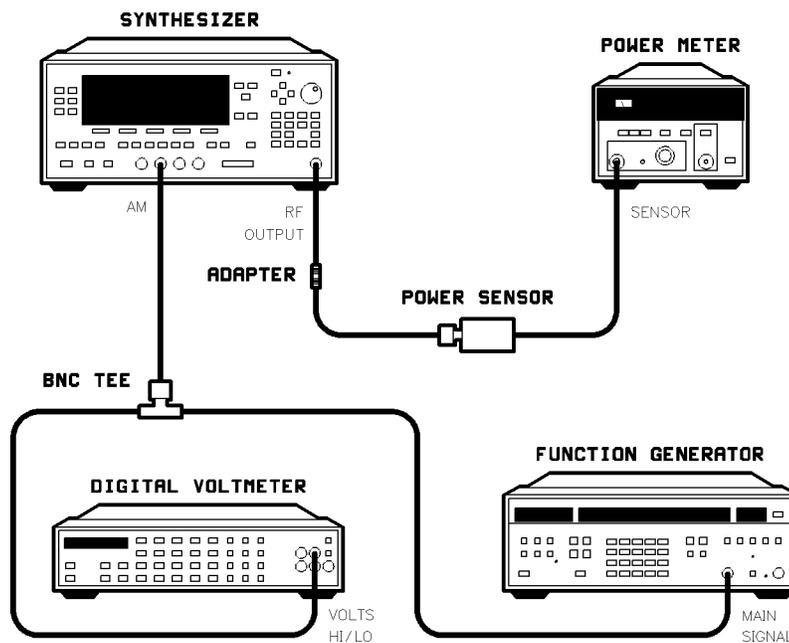

Figure 3-28. AM Accuracy Adjustment Setup
1. Turn on the instruments shown in Figure 3-28 and let them warm up for at least one hour.
3. Connect the equipment as shown in Figure 3-28.